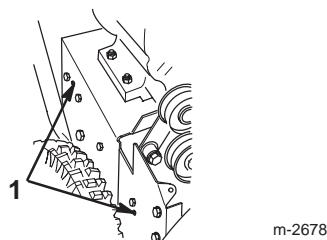

Figure 29
18. Install the 2 screws that secure the auger brake arm assembly. Ensure that the tabs fit into the holes in the left side of the snowblower (Fig. 29).
14. Install the 2 screws that secure the auger brake arm assembly. Ensure that the tabs fit into the holes in the right side of the snowthrower (Fig. 29).